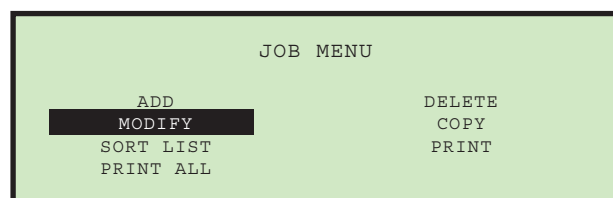
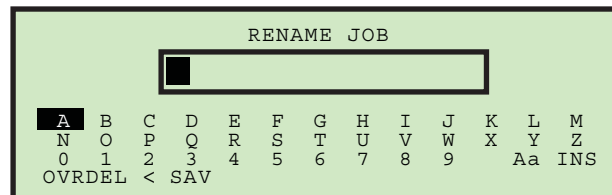

Figure 25: Job menu screen
Figure 26: Rename Job screen
1. On the Job Menu screen (Figure 25), select ADD, and press Enter. The RENAME JOB screen appears as shown in Figure 26.
1. On the Job Menu screen (Figure 25), select DELETE. The SELECT JOB TO DELETE screen appears as shown.
1. On the Job Menu screen (Figure 25), select MODIFY. The SELECT JOB TO MODIFY screen appears.